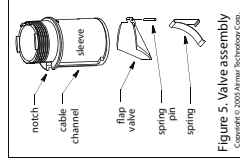

Figure 5. Valve assembly (Copyright © 2008 Airmar Technology Corp.)
**CAUTION:** Be careful to avoid cross threading the CAP nut. Should the valve fail, it will need to be removed for servicing. Follow the steps below. If a key is missing, a key must be made not immediately available. The valve sleeve must be installed in the multisensor housing for a watertight seal. Remove the flap valve, spring pin, and spring from the sleeve (Figure 5). Then reinstall the sleeve in the housing.
4. Clean, repair, or replace the valve assembly, so the flap valve moves freely and seats against the sleeve (Figure 5).
7. Remove the safety wire from the multisensor. With the combined valve assembly and paddlewheel insert ready in one hand, remove the blanking plug. Slide the assembly into the multisensor housing with the arrow on the top pointing forward toward the bow. Be sure the cable fits into the cable channel and the notch in the sleeve fits into the key in the housing (Figure 5). (A pushing twisting motion will locate the key.)